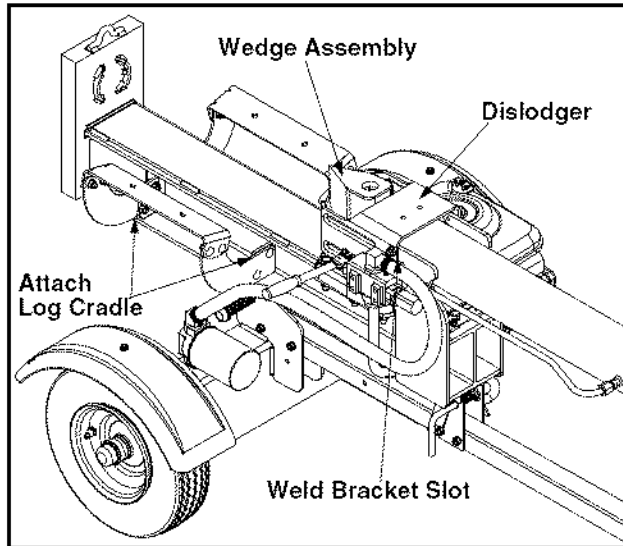

Figure 4
- Attach the dislodger over the wedge assembly and secure with the hardware previously removed to the weld brackets. See Figure 4.